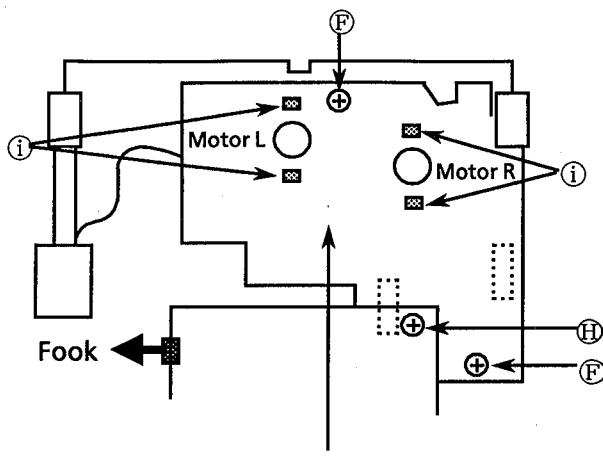

Fig. 32
1. Unsolder 4 soldered point ① for both motors. (See Fig. 32.)
2. Remove a screw ② securing the CD servo board. (See Fig. 32.)
4. Remove 2 screws ③ securing the actuator motor board. (See Fig. 32.)